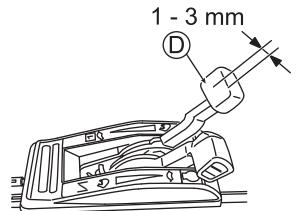

Fig. 27
Adjust the play of Gearshift lever (D) to 1 - 3 mm as shown in Fig. 27.
- 3 Start the engine and confirm that running speed changes when Gearshift lever (D) is operated.